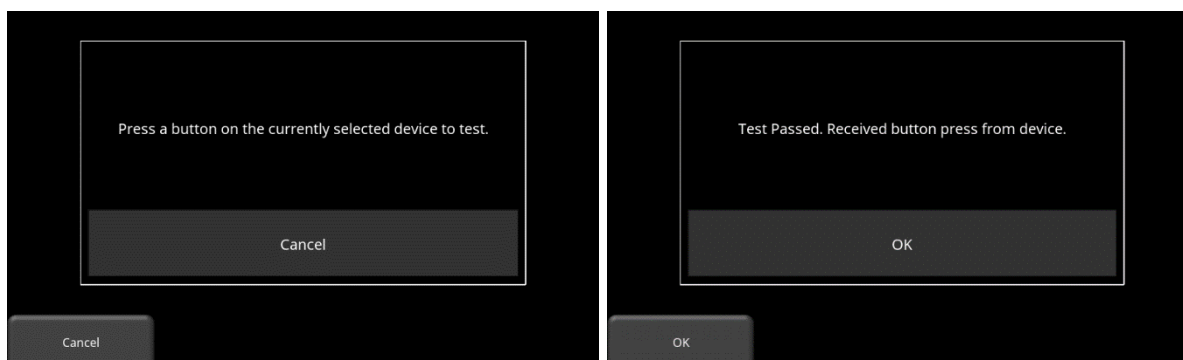

Figure 5-12: Confirming Bluetooth connection and operation.
After connecting, the system will confirm connectivity by asking you to press a button on a device (Figure 5-12)
- **Connect** – to connect a listed device, make sure the device status is Paired. Then select the device and press the **Connect** button. It will then ask you to press a button on the device to confirm a successful connection (Figure 5-12).
- **Test** – to confirm that everything is working, press this button. You will see a message on the screen to press a button on the Bluetooth device. If received on the Display Unit, a message will indicate that you are successful (Figure 5-12).